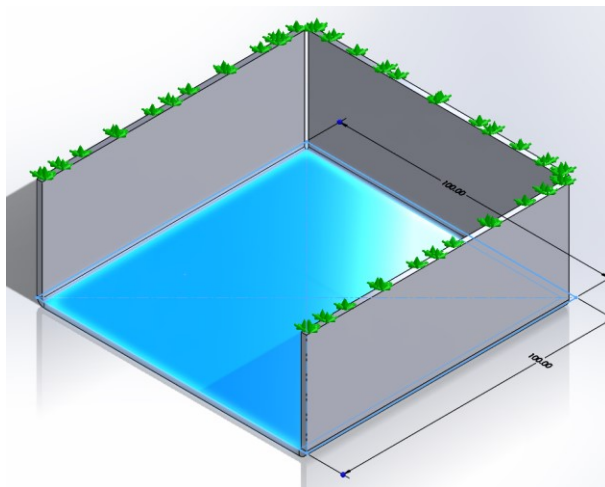
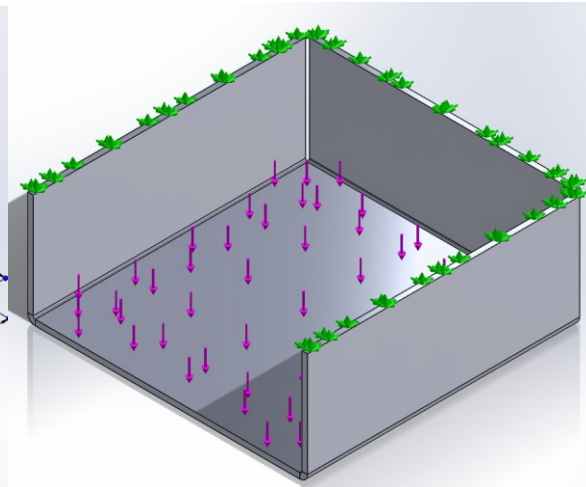

Figure 9
Figure 10
4. Right-click on *External Loads* and select *Force*. The direction should be normal, the units should be SI and the Force Value should be set to the value provided in the checksheet for Tutorial 2. Then select the face shown in Figure 9 for the *Faces* and *Shell edges* for *Normal Force* and click okay. Your simulation should now look like Figure 10.